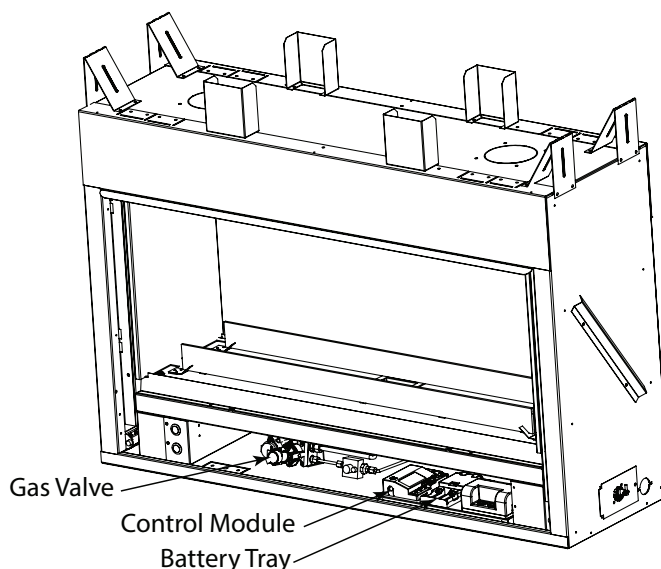

Figure 18. Control Cavity Location
The IntelliFire™ Plus ODS intermittent pilot ignition system comes with a battery backup system that enables the system to operate in a power outage. The system offers seamless transition from household AC power to battery backup. A factory-installed battery pack is located in the control cavity of the appliance. See Figure 18. Battery longevity and performance will be affected by long term exposure to the service temperatures of this appliance.
1. Access the control cavity of the appliance. See Figure 18 for location. Lift the barrier screen off of the appliance.
2. Locate the battery tray and insert four AA cell batteries. See Figure 18. Battery polarity must be correct or module damage will occur. A complete wiring diagram is included in the electrical section of the appliance installation manual.